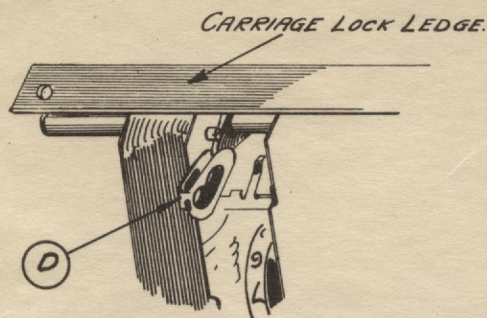
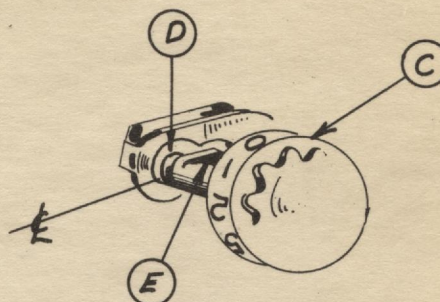

FIG. 1
FIG. 2
- 101 TO ASSEMBLE, PLACE THE CARRIAGE UPON ITS BACK AS SHOWN IN FIG. 1 - BRING CLEAR FINGERS (D) FORWARD AS SHOWN IN FIG. 2.
- 102 INSERT THE DIAL (C) WITH CAM POINT (E), IN POSITION AS SHOWN, INTO THE CLEAR FINGER (D) FIG. 2.